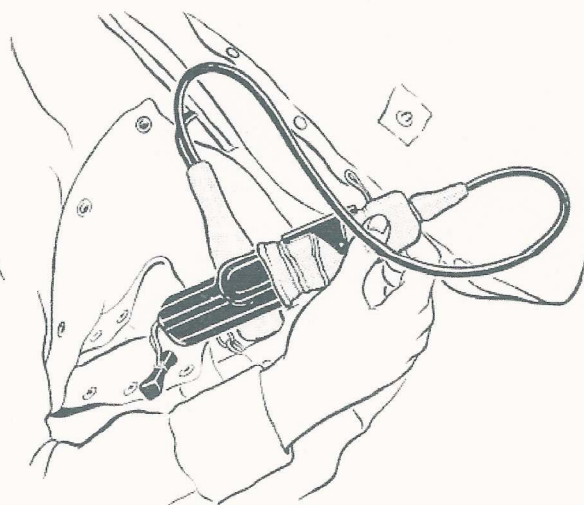
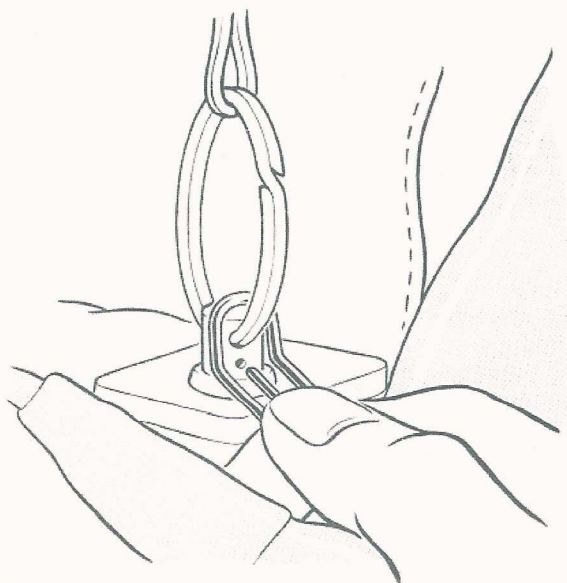

Fig. 9. Automatic extraction of battery switch pin as beacon is withdrawn
Fig. 8. Connecting the beacon to the battery switch pin: fifth stage
(6) Raise the switch plunger (fig. 8) by lifting the ring with a loop of cord and insert the switch pin into the hole which becomes exposed when the plunger is lifted. Fig. 9 shows how the switch pin is extracted when the beacon is withdrawn.
(7) Place the beacon in its stowage over the battery pocket, draw the edges of the flaps together and secure them by passing the draw rod through the beackets from front to rear using alternate beackets.
(8) Pull over the outer flap and secure it with studs.
(9) Stow the loop of cable running between the battery and the beacon under the retaining flap beside the armhole in the suit.
(10) Pass the battery cable through the retaining flaps beside the armhole and behind the neck.
(11) Stow the speech unit and any surplus cable in the speech unit pocket on the left front of the suit and close the pocket by passing the draw rod upwards through the beackets.
(12) Secure the finger ring on the draw rod with the snap fastener at the bottom of the pocket.